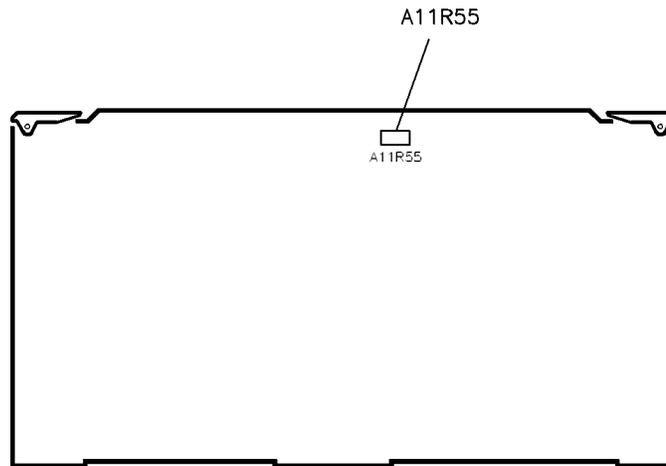

Figure 3-33. FM Gain Adjustment Location
5. Adjust A11R55 (see Figure 3-33) for a minimum signal on the spectrum analyzer.